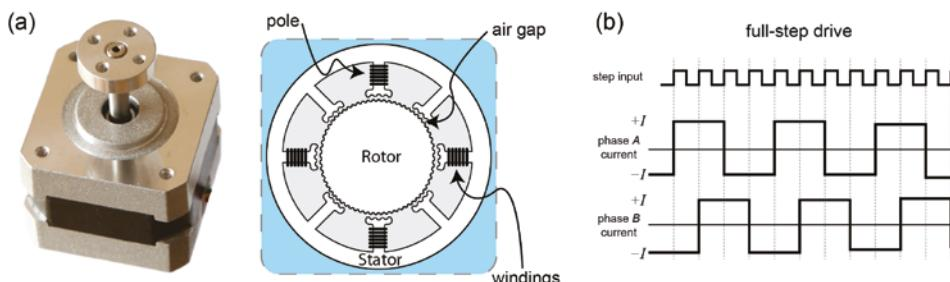

Figure 9-6: (a) Stepper motor external and internal structure; (b) full- and half-step drive signals
Stepper motors, as illustrated in Figure 9-6(a), have toothed permanent magnets that are fixed to a rotating shaft, called *the rotor*. The rotor is surrounded by coils (grouped into *phases*) that are fixed to the stationary body of the motor (*the stator*). The coils are electromagnets that, when energized, attract the toothed shaft teeth in a clockwise or counterclockwise direction, depending on the order in which the coils are activated, as illustrated in Figure 9-6(b) for full-step drive.
- **Microstep:** Uses sine and cosine waveforms for the phase currents to step the motor rather than the on/off currents illustrated in Figure 9-6(b) and thus allows for higher step resolutions (though the torque is significantly reduced).